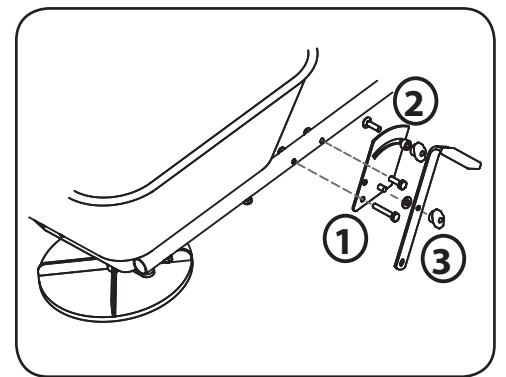

Figure 1-9
- Use two M6 x 40 bolts and locknuts to attach the control plate to the right side of the frame. See 1 in Figure 1-9.
- Insert carriage bolt through the slot in the control plate and secure with a plastic spacer and wingnut to create an adjustable stop for the control handle. See 2 in Figure 1-9.
- Mount the control handle to the control plate using a washer (between the control handle and control plate) and a wingnut. See 3 in Figure 1-9.
- Loosen, position and retighten the wingnut on your adjustable stop so that the control handle does not move out of position. See 2 in Figure 1-9.